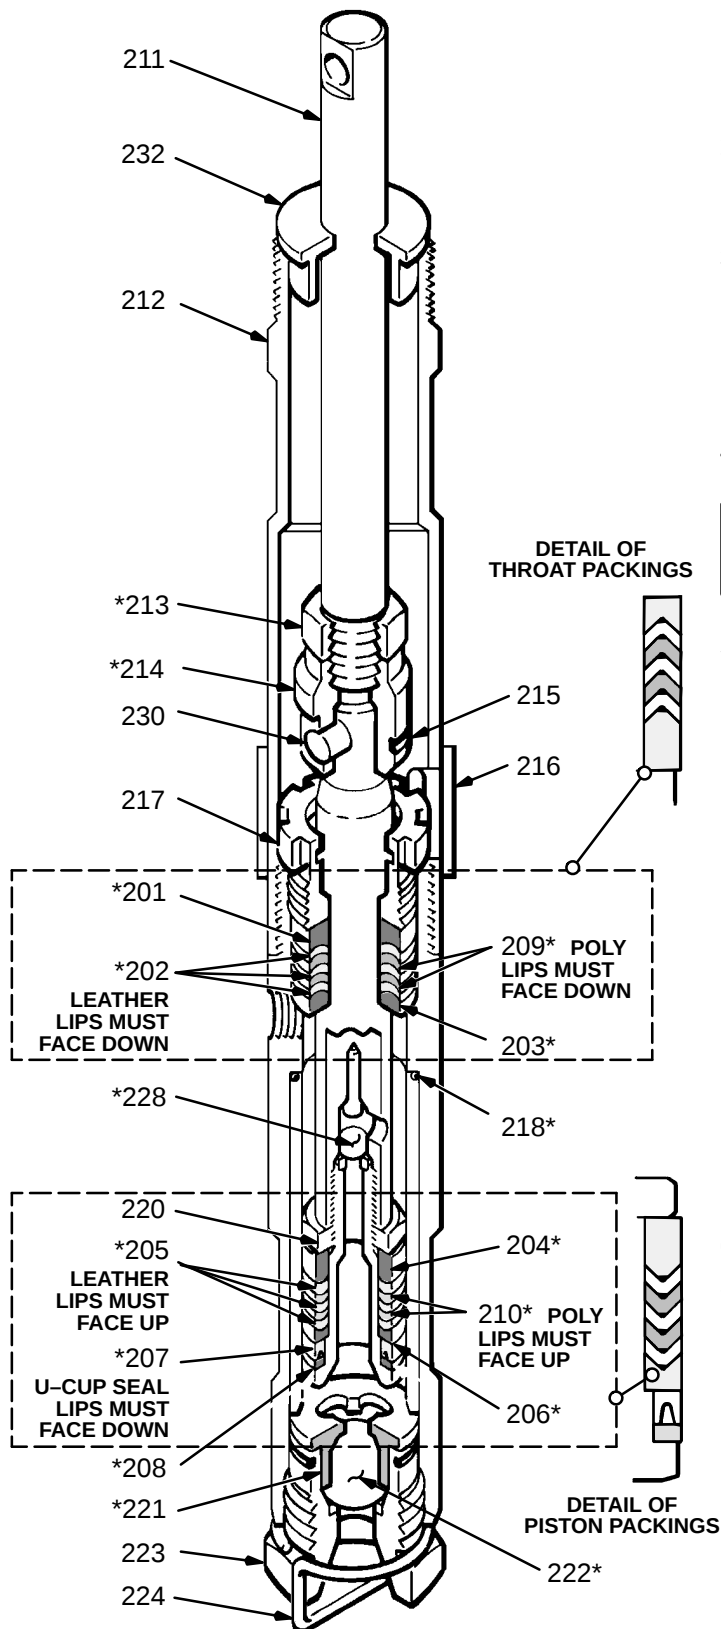

Fig 3
NOTE: Refer to Fig 3 for Steps 3 to 5.
NOTE: Soak leather packings in oil before using them. Alternate leather and plastic packings, making sure the packings face the correct direction, as shown in Fig 3.
1. Check the outside of the piston rod (231) and the inside of the sleeve (219) for wear, and replace parts as needed.
2. Stack the packings (210, 205), glands (204, 206), u-cup seal (207) and washer (208) onto the piston valve (226) as shown in Fig 3.
8. Stack the throat packings (202, 209) and glands (201, 203) in the cylinder (227) one at a time as shown in Fig 3.
9. Install the packing nut (216) and plug (205), but leave the packing nut loose for now. See Fig 3.